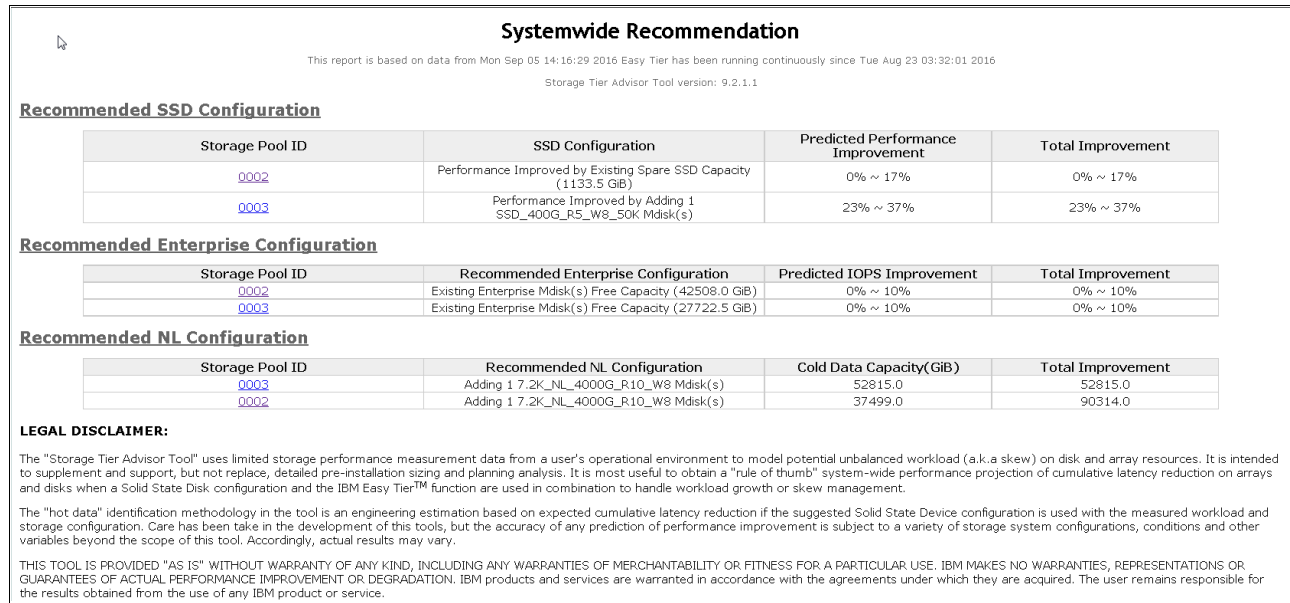

Figure 7-14 Systemwide Recommendation window
Figure 7-14 on page 279 shows the Systemwide Recommendation window, which is opened by selecting the Systemwide Recommendation link in the left panel.
Figure 7-14, the Performance Improved by Adding 1 SSD_400G_R5_W8_50K item indicates capacity from arrays with a 400 GB SSDs, RAID 5, and Width 8 (which means 8 data drives+Parity) configuration.
- ▶ The predicted system performance improvement percentage compared to the previous configuration (as shown in Figure 7-14 on page 279).